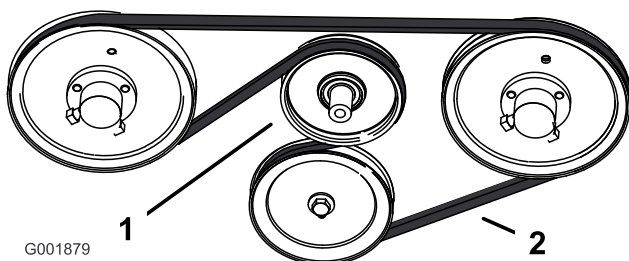

Figure 70
3. To replace the belt, pull the spring loaded idler down and remove the traction belt from the engine and hydro pump pulleys (Figure 70). Remove the belt between the pulleys.
4. Install the new belt around the engine and hydro pump pulleys (Figure 70).
5. Pull the spring loaded idler down and align it below the traction belt. Release the pressure on the spring loaded idler (Figure 70).